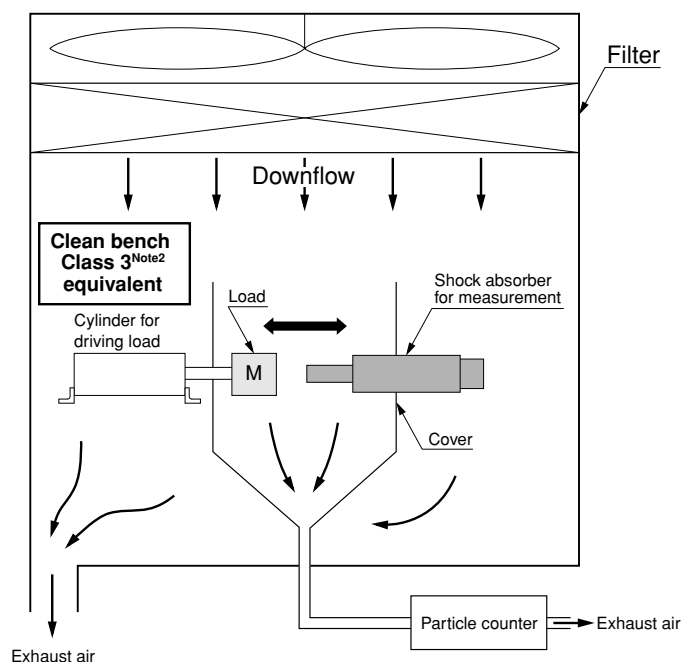

Figure 1
1. Measure particles in the clean bench (Figure 1) without activating the measurement use shock absorber and cylinder for driving load in the clean bench (to measure the background value).^{Note}